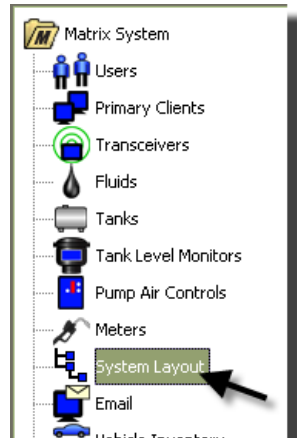

FIG. 140
1. To display the main System Layout setup screen, select **System Layout** from the list on the Matrix System Panel (FIG. 140). Before you setup the System Layout you must first add tanks (page 86) and meters (page 99).